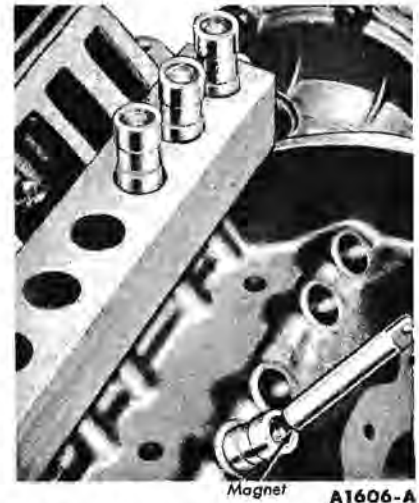

FIG. 39—Valve Lifter Removal
12. Using a magnet, remove the valve lifters and place them in a rack so that they can be installed in their original bores (Fig. 39).
4. Using a magnet, remove the valve lifters and place them in a rack so that they can be installed in their original bores (Fig. 39).